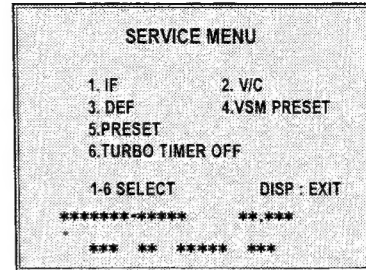

Fig. 1
- 2) The SERVICE MENU screen of Fig. 1 will be displayed.